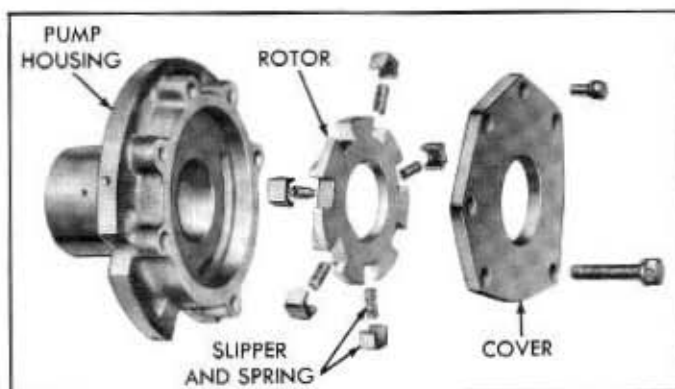

Fig. 7A-20—Rear Pump—(61CM-4403)
2. Remove the rotor, slippers and springs. Refer to figure 7A-20.